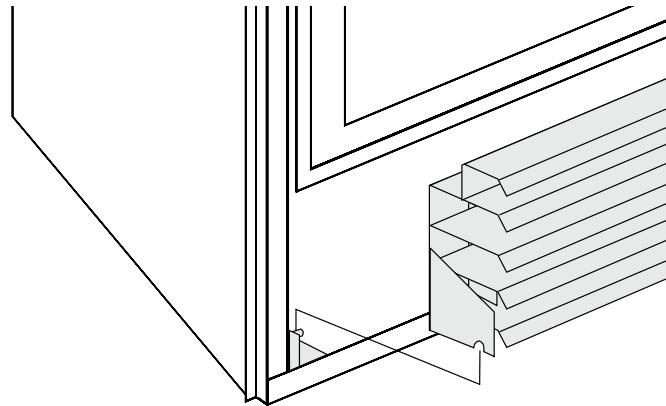

Figure 31b. Installing the lower louvre assembly
3. Install the lower louvre assembly. Line up the slots on each side of the bottom louvre with the hinge tabs at the base of the fireplace as shown in figure 31b.